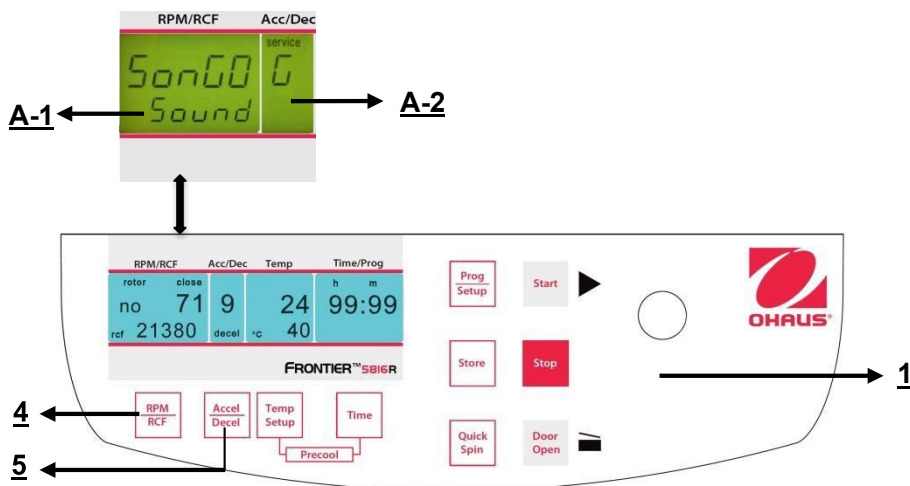

Figure. 37
Proceed as described under point 4.1.1 to enter this program mode and then press the key "**Accel/Decel**" (5). In the display "**Acc/Dec**" (A-2) the word "**Service**" flashes. Now select the letter "**G**" with the adjusting knob (1). As a result, in the display "**RPM | RCF**" (A-1), the word "**SonGo/Sound**" appears. After pressing the key "**RPM | RCF**" (4), you can select a song with the adjusting knob (1). (See figure 37).